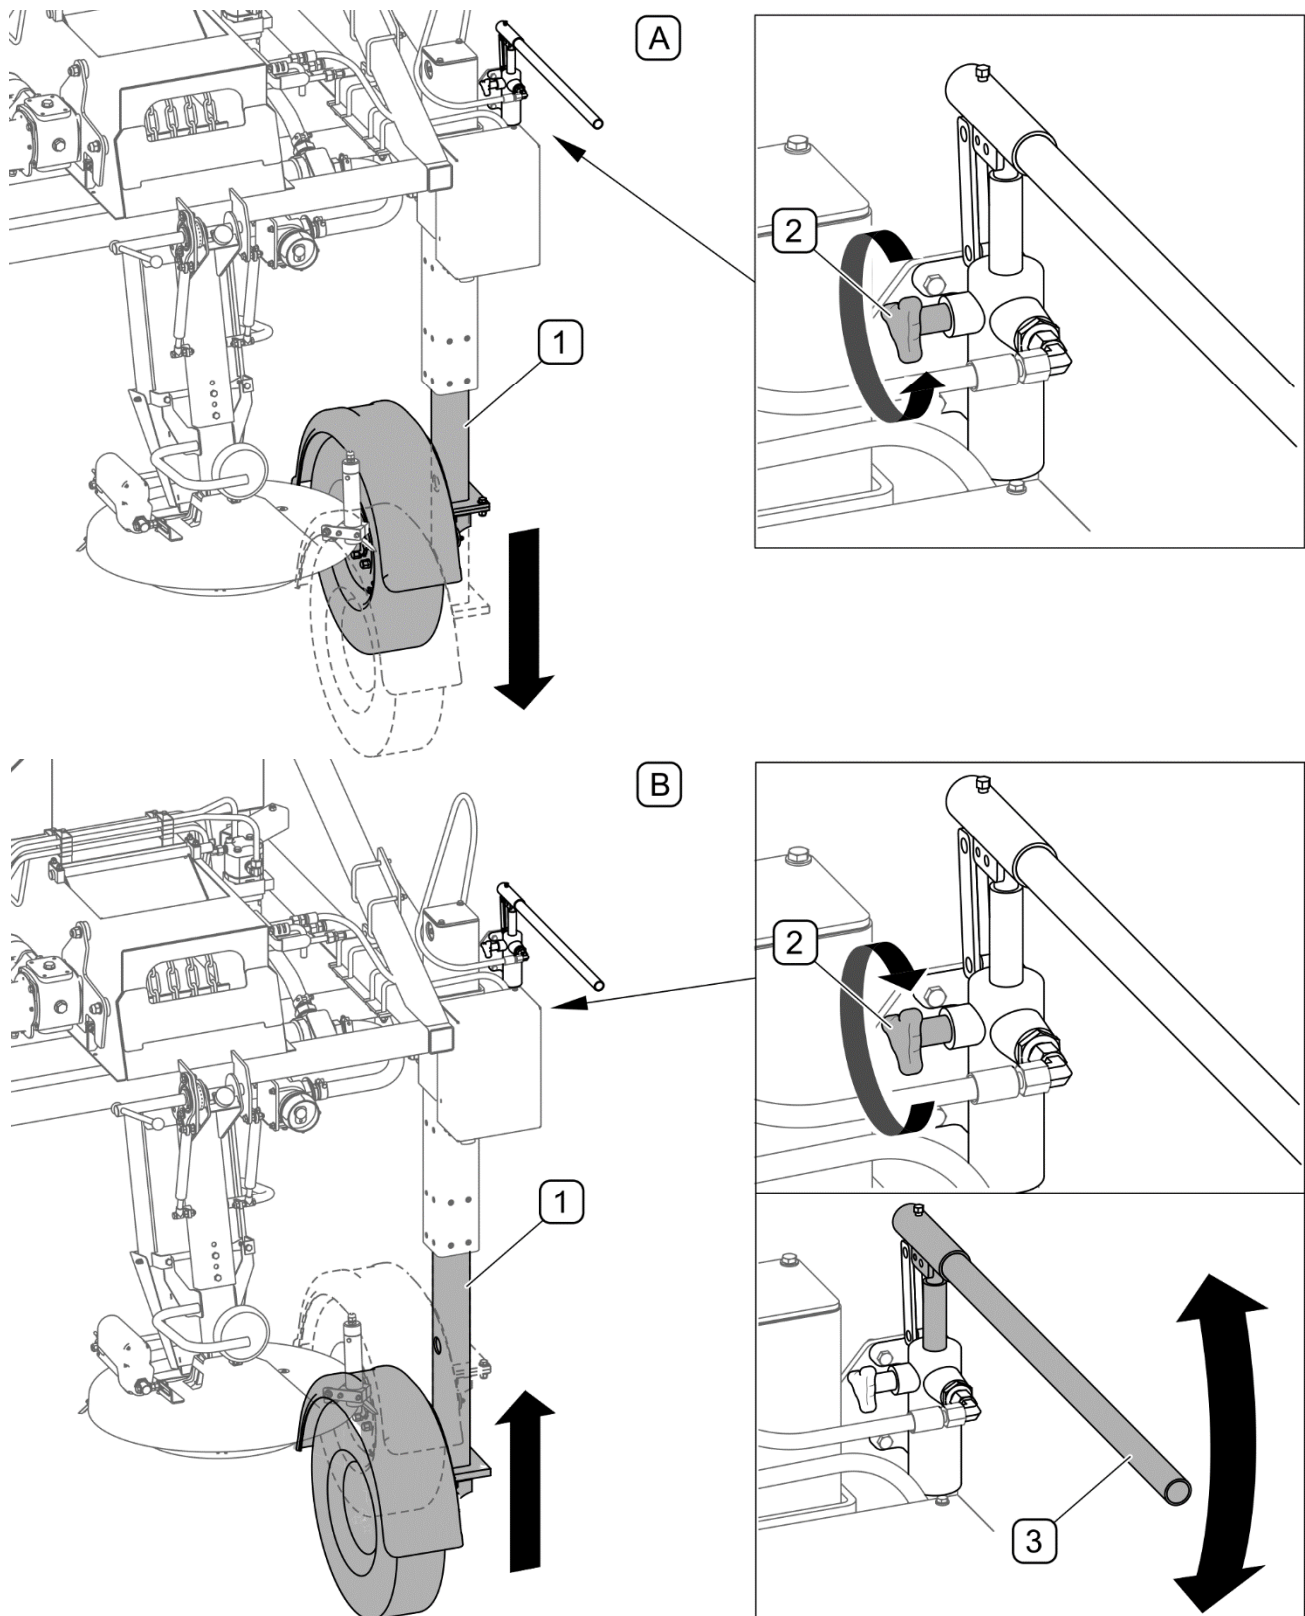

FIG. 4.25 Lowering and raising the drive wheel column
Before you start spreading, lower the column of hydraulic system drive wheel (1) (FIG. 4.25). To do this, screw out knob (2) (maximum 4 rotations) and lower the wheel until it touches road surface.
During spreading, knob (2) of pump valve (FIG. 4.25) should remain in unscrewed position.